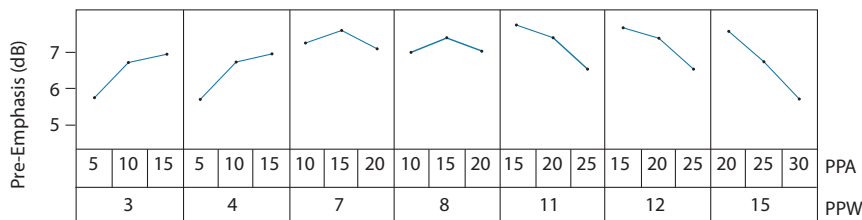
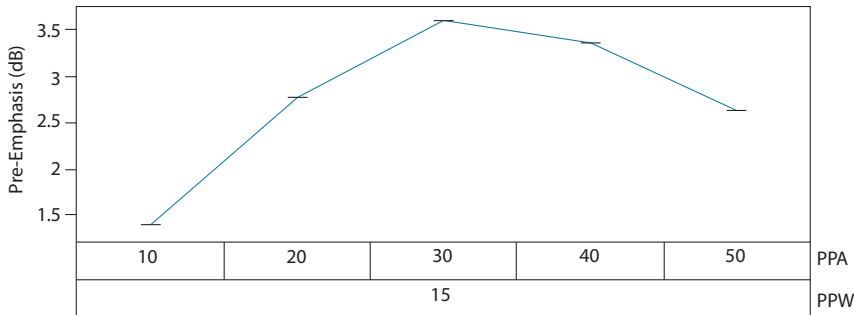

Figure 4-12: Pre-emphasis Settings for $VCCO_1 = 1.2\text{V}$ and $DS = 7$ (swing = 200mV_{pp})
Figure 4-19: Pre-emphasis Settings for VCCO_1 = 2.5V and DS = 35 (swing = 800mV_{pp})
The only requirement of the Trace Driver pre-emphasis settings is to minimize ISI introduced by a lossy link and maximize the eye opening at the receiver. The pre-emphasis compensation of the GS12090 output channel is a two-step process. The first step is to use the settings from Figure 4-12 to Figure 4-19 that best match the insertion loss of the link in the application, while the second step is a fine optimization procedure.
1. Pre-emphasis Amplitude (PPA) Optimization: Set the PPA and PPW to the values obtained from the graph selected out of Figure 4-12 to Figure 4-19, and then measure the downstream jitter. While keeping PPW constant, increment the PPA by 'a'. If the jitter is lower after the first increment, continue to increment by 'a' until the jitter begins increasing or a setting of 50 is reached. If there was a setting which resulted in a lower jitter measurement than the initial setting, that is the Optimized Pre-emphasis Amplitude setting: $PPA_{Optimal}$, and the PPA optimization procedure is complete.
If incrementing the PPA or decrementing the PPA did not result in a setting with lower jitter, then the initial setting obtained from the graph selected out of Figure 4-12 to Figure 4-19 is the PPA optimized Pre-emphasis Amplitude setting: $PPA_{Optimal}$.
2. The second step is to set the PPA to the optimized setting $PPA_{Optimal}$ determined in step 1 and PPW to the values obtained from the graph selected out of Figure 4-12 to Figure 4-19, then measure the downstream jitter. While keeping PPA constant, increment the PPW by 'w'. If the jitter is lower after the first increment, continue to increment by 'w' until the jitter begins increasing or a setting of 15 is reached. If there was a setting which resulted in a lower jitter measurement than the initial setting, that is the Optimized Pre-emphasis Width setting: $PPW_{Optimal}$, and the optimization procedure is complete.
If incrementing the PPW or decrementing the PPW did not result in a setting with lower jitter, then the initial setting value obtained from the graph selected out of Figure 4-12 to Figure 4-19 is the optimized Pre-emphasis Width setting: $PPW_{Optimal}$.